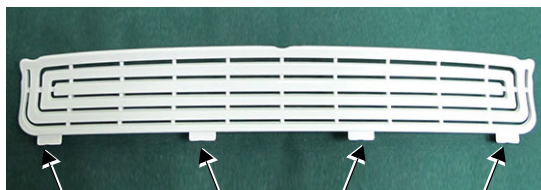

Figure 8-34 Touch Screen Service Cover - Securing Tabs
Note: The Touch Screen Service Cover, located at the lower rear of the Touch Screen, clips into the Touch Screen Rear Cover by way of 4 securing tabs - Figure 8-34.
- 2) Using a flat screwdriver, carefully release the Service Cover snap-lock securing tabs (Figure 8-34) from the rear of the Touch Screen rear cover.
Note: The Touch Screen Rear Cover is fastened to the back of the Touch Screen by 3 screws through securing tabs located on the base of the cover and 2 screws at the top - Figure 8-34.